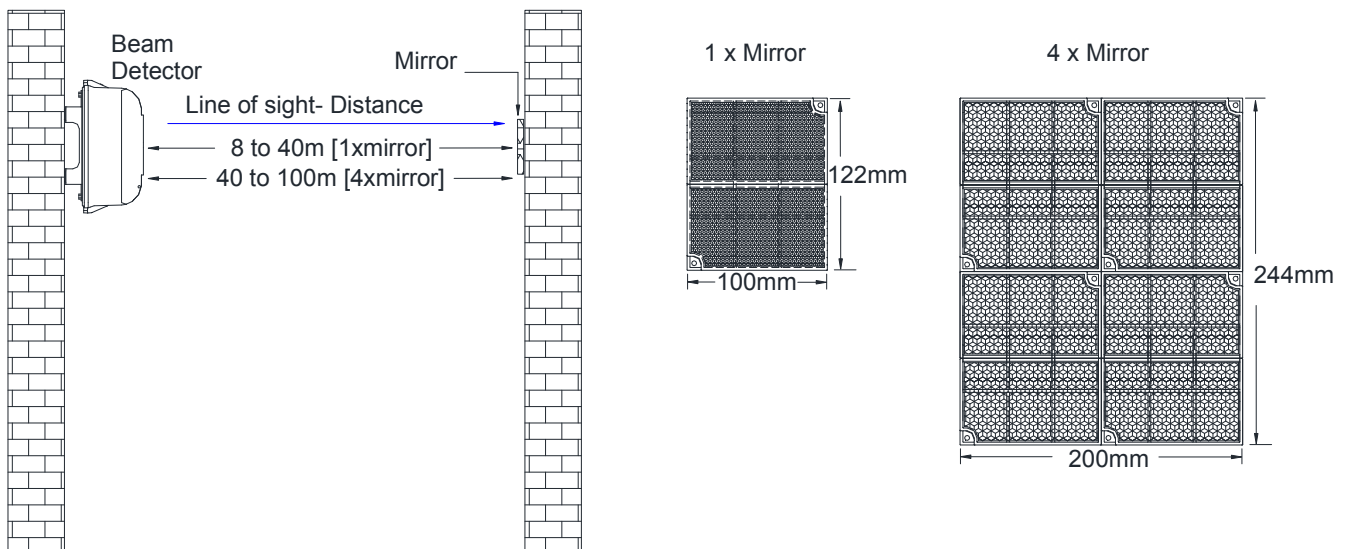

Figure 6: Mounting of Reflector Mirror
1. Depending on the project requirement, if the distance between the detector and the reflector mirror is 8m-40m, install one reflector is enough; if the distance is 40m-100m, four reflectors is required. Refer to Figure 6.
3. Fix the reflector mirror using two ST4x30 standard screws, in the case of one unit mirror, do the same step for other mirror if required. Refer to Figure 6.